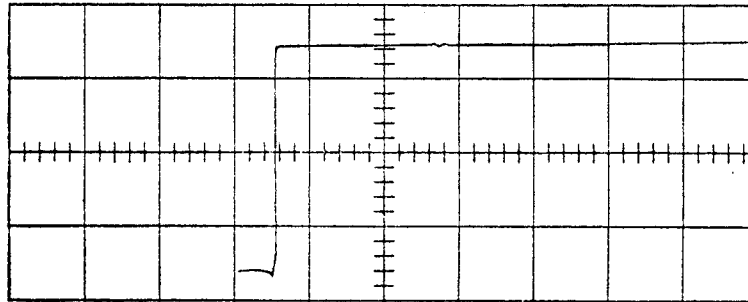
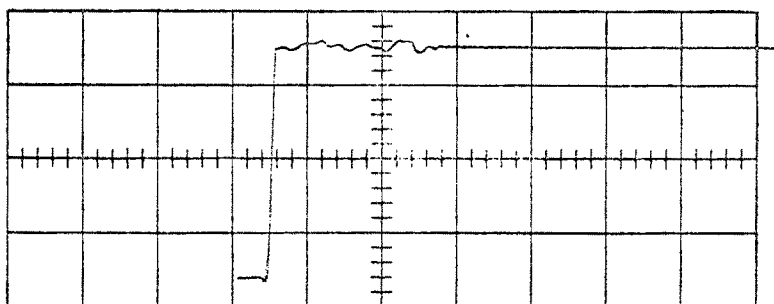

Fig. 2. Appearance of the display on a properly adjusted oscilloscope.
Fig. 7. Illustrating severe wrinkles along flat top of waveform. This condition requires detailed adjustment.
- Turn the AMPLITUDE control on the Type 53/54P 90 degrees right. Turn the COIL CURRENT switch ON. Turn the Main Sweep TRIGGERING LEVEL control slowly toward 0 until you observe a stable display having the general appearance of Fig. 2, including the entire rising portion of the waveform at the left-hand part of the graticule. Adjust the FOCUS and INTENSITY controls for the sharpest possible trace. Set the AMPLITUDE control for a suitable amount of vertical deflection (for example, 3 centimeters). Adjust the VERTICAL POSITION control so that the display is centered vertically on the graticule.
- Are there any excessive wrinkles along the flat top of the displayed waveform (Fig. 7)? Wrinkles normally will not exceed about 1 tracewidth in amplitude. Excessive wrinkles can cause aberrations in the display of a fast waveform. Wrinkles along the flat top of the displayed square wave might result from gradual changes in delay-line adjustments caused by vibration. Wrinkles as severe as those in the display of Fig. 7 would perhaps appear only if the oscilloscope were subjected to excessive vibration or shock, or to severe temperature variations. Figure 7 illustrates a case where the entire delay line needs readjustment. In a case like this, proceed directly to the section
5. There will often be a slight wrinkle called a "termination bump" in the displayed waveform, located about  $2\frac{1}{2}$  centimeters to the right of the corner of the waveform (see Fig. 2). Does the termination bump appreciably exceed about 2 tracewidths in amplitude (as in Fig. 8)? Or are there perhaps two or three other small bumps along the flat top of the waveform as shown in Fig. 8--and as contrasted to the severely wrinkled display of Fig. 7? If so, reset the
6. Does the leading edge of the waveform, at the left-hand end of the graticule, appear normal? If the oscilloscope is correctly adjusted, the leading edge of the waveform will rise steeply as shown in Fig. 2, and the corner will be sharp without appreciable rolloff or overshoot.
When the adjustments are completed, the corner and the leading edge of the displayed waveform should look like those of Fig. 2.